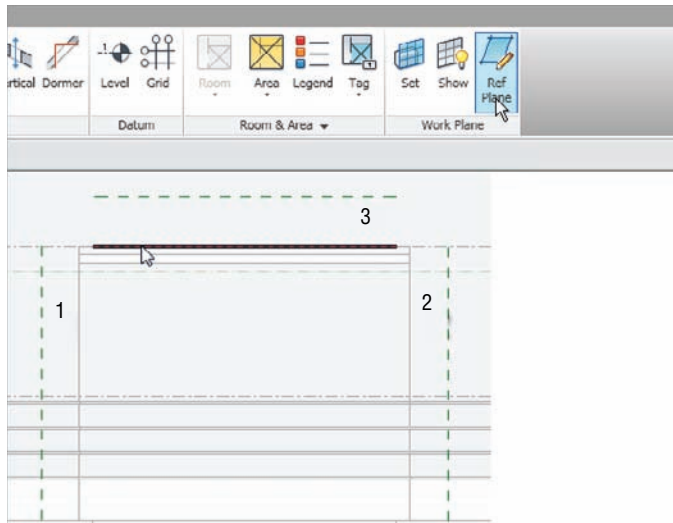

FIGURE 7.51 Adding reference planes to use as construction lines
- In the Home tab, select Reference Plane, as shown in Figure 7.51, and then click the Pick Lines button.
- Offset a reference plane 3'-0" (900mm) to the left and to the right of the exterior walls, as shown by numbers 1 and 2 in Figure 7.51.
- Offset a reference plane 4'-0" (1200mm) up from the top of the wall, as shown by number 3 in Figure 7.51.